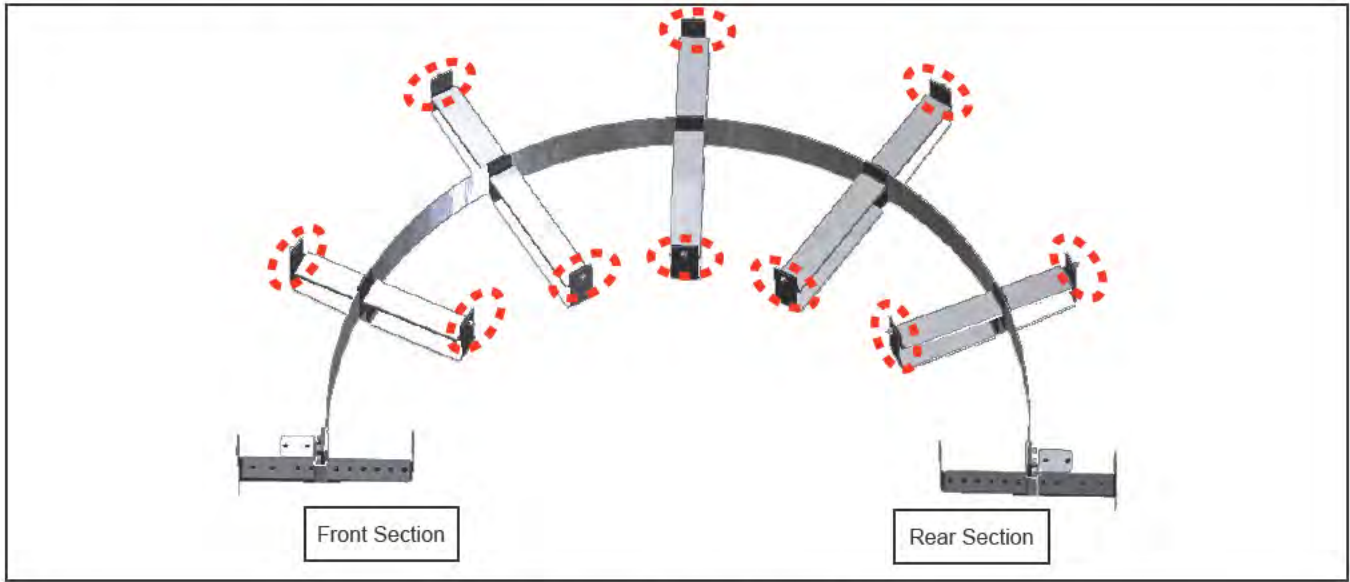

Figure 12 - Location of the 10 Blocks N81066
- 4.1. For each end of upper trays tips, remove and discard the M6 screws and nuts. Install a tie cable mount N57040 with a protective stripe wear block N81066. Use the new longer bolts N33735 and nuts N44890 supplied. See Figure 12 and 13.